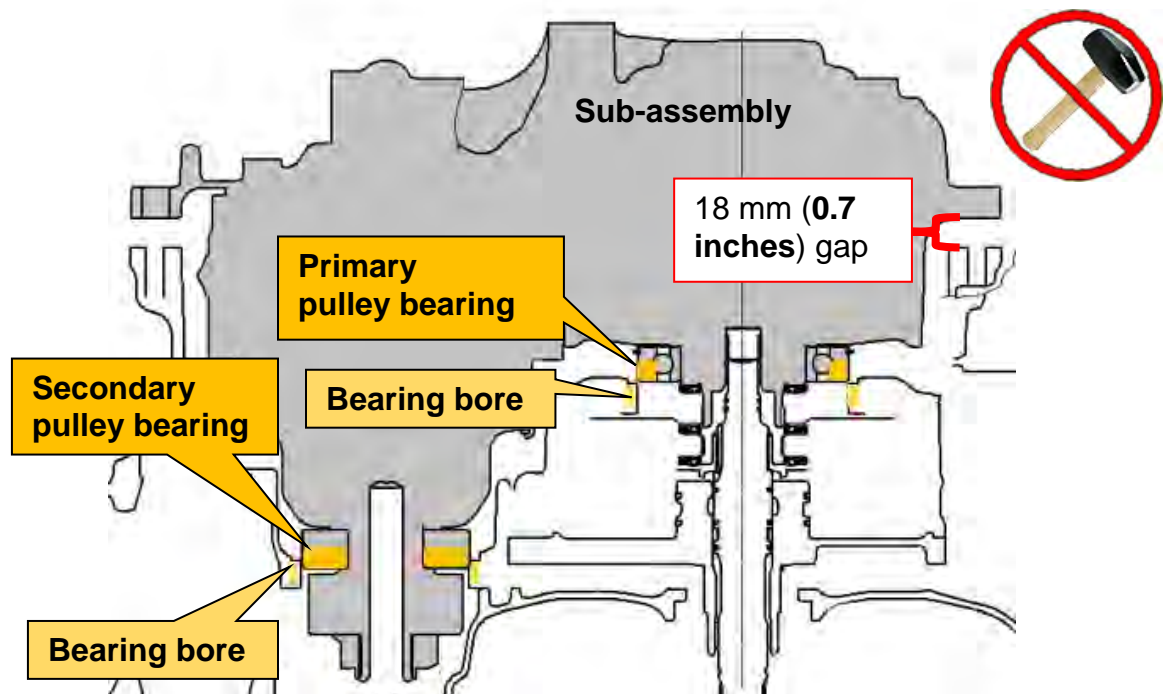

Figure 28E
- If the primary and the secondary pulley bearings do not align properly with their bores (Figure 28E) or are at an angle, a **gap of 18 mm (0.7 inches)** may be present.
- Possible areas of interference are highlighted with orange and tan in Figure 28E.